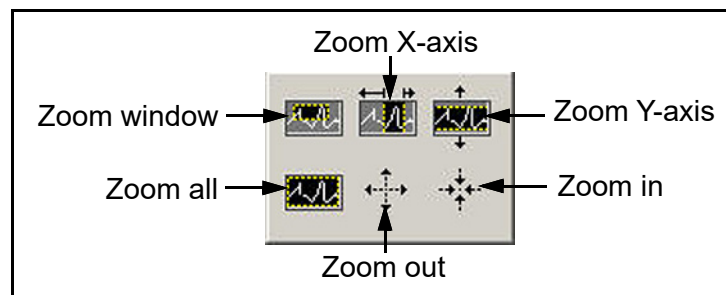

Figure 76: Zoom Tool
- Zoom Tool - gives you six options as shown in *Figure 76* below.